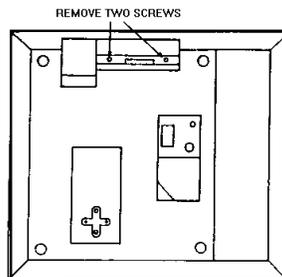

Figure 5
- 6.1.3 Tip the scale base on its right side as shown in Figure 5 and remove the two phillips head screws that hold the blank plate to the base.